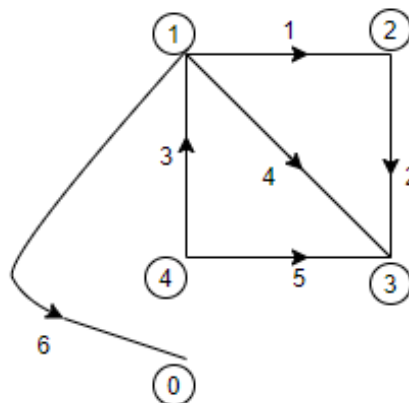

Fig. 1(c)
- c) For the graph given in fig. 1(c), obtain B, C and K. considering element 3 as link. **06**